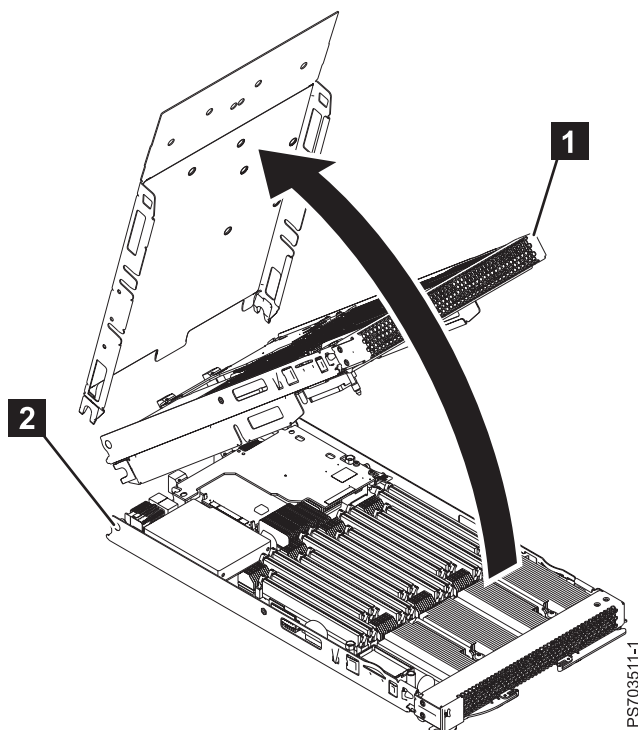

Figure 23. Removing the expansion unit
6. Pivot the expansion unit (**1** in Figure 23 on page 238) up on the cover pins of the base unit (**2**).
7. Lift the expansion unit (**1** in Figure 23) from the blade-server base unit and lay it on a flat, static-protective surface.